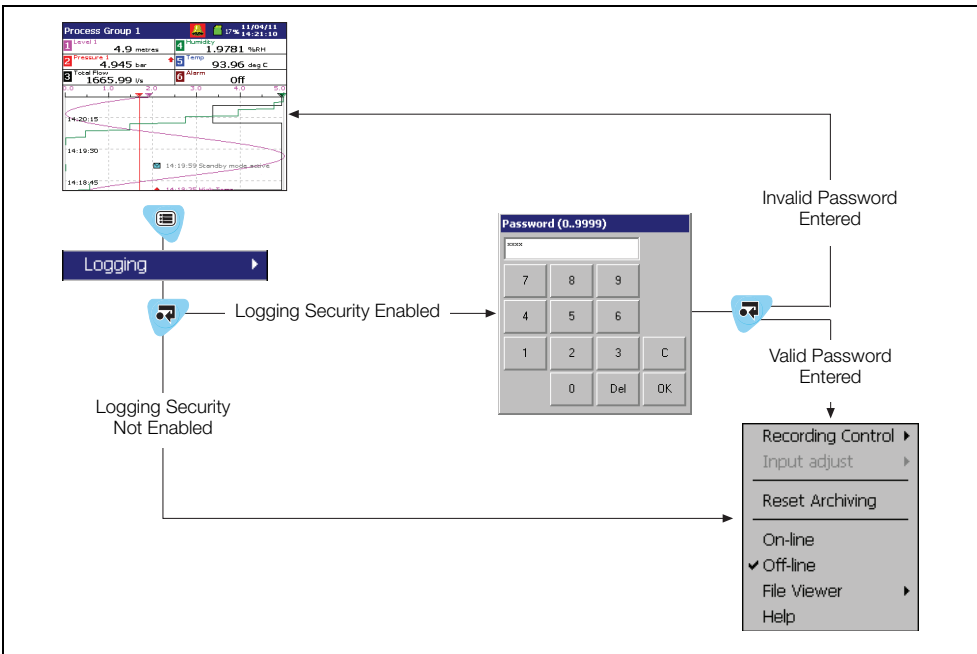

Fig. 5.1 Accessing Logging – Basic Security
- If 'Security System' is set to 'Basic' and 'Logging Security' is set to 'On', access to the Logging facility is protected by a single password for all users. Refer to Fig. 5.1 to access Logging.